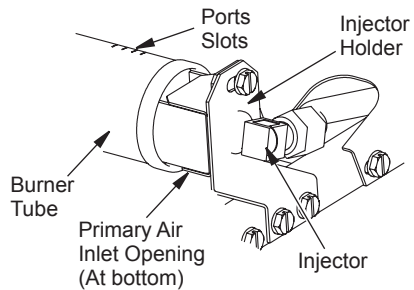

Figure 28 - Injector Holder On Outlet Burner Tube
2. Inspect burner, pilot and primary air inlet opening on injector holder for dust and dirt (see Figure 28).